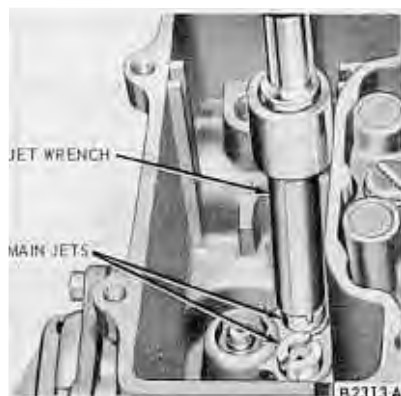

FIG. 20—Main Jet Removal or Installation
3. Remove the primary stage and secondary stage main jets (Fig. 20).
12. Using a jet wrench, install the primary and secondary main jets (Fig. 20). Be sure the correct jets are installed for the primary and secondary systems (Part 10-8).